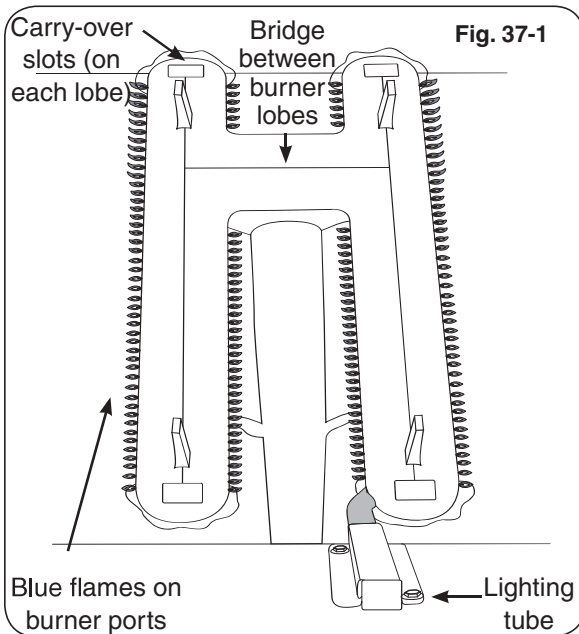

Fig. 37-1
Flames from a properly adjusted main burner with no wind or breeze present will appear fairly steady, consistent, and mostly blue. If the tip of a flame were to turn orange, it should only do so briefly and then become blue again. The flames will appear to burn while touching the burner ports (see Figure 37-1).
5. Repeat steps 1-4 until the flames appear to touch the burner ports, burning fairly steadily and mostly blue (see Fig. 37-1).